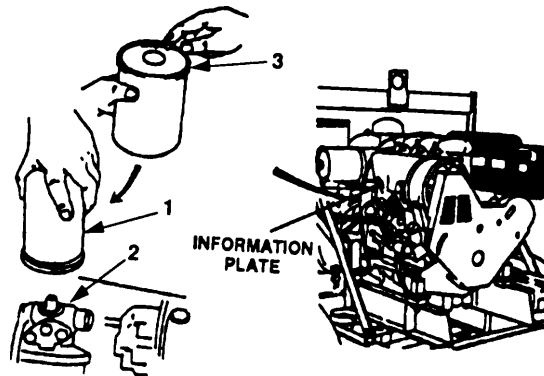

Figure 4-28. Fuel Filter Maintenance.
- a. Unscrew expendable filter (figure 4-28, 1) and discard.
- b. Clean seat (2).
- c. Lightly oil rubber seal (3), then screw in new filter (1) until seated.
- d. Turn filter (1) a final half turn.